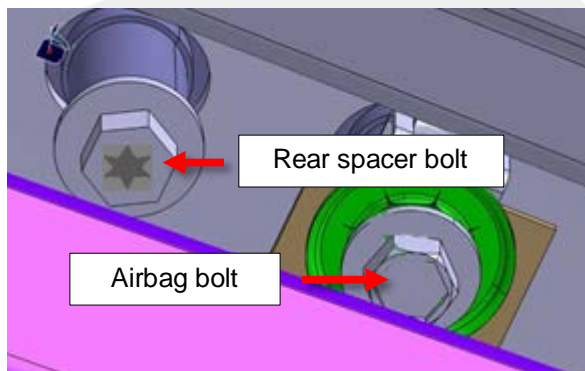

Figure 43 (LH side shown)
1. Unscrew the spacer bolt that is behind the side curtain airbag bolt as much as possible without completely removing it (Figures 43 and 44). The screw can back out approximately 12 mm and remain threaded in place.